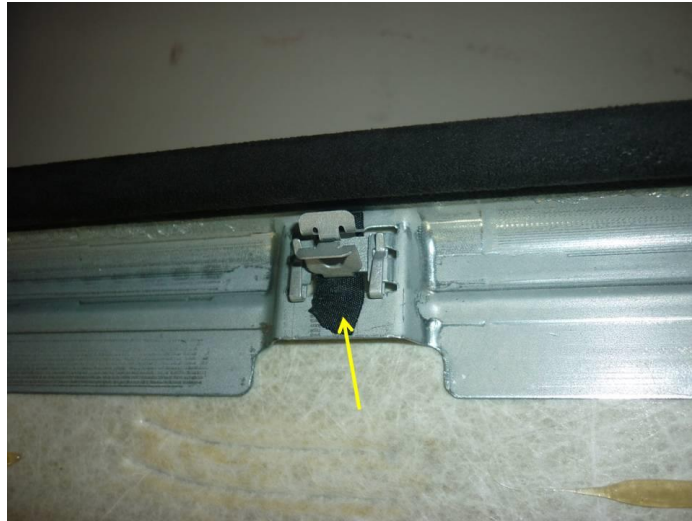

Figure 3. Clips reinstalled.
4. Reinstall the clips (Figure 3).